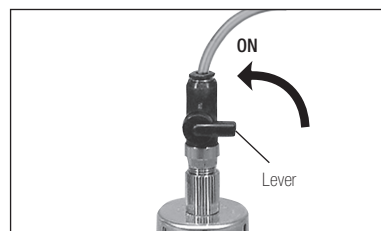

Fig. 8
- (1) Shake PANA SPRAY Plus well.
- (2) Turn the ON/OFF Valve lever to the ON position. (Fig. 8)